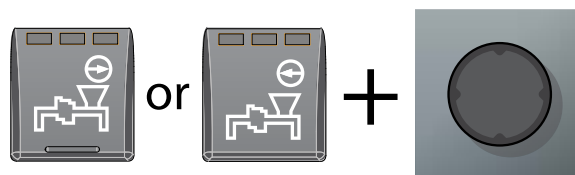

Figure 15
3. Press and hold either the concrete pump forward or reverse button on the pendant remote while simultaneously pressing the ram change button next to the waterbox; both buttons must be pressed within a half second of each other in order to move the differential cylinders (Figure 15). To stop the differential cylinders, release either the concrete pump forward or reverse button or ram change button. To activate the differential cylinder again, release any pressed button then simultaneously press the concrete pump forward or reverse button and ram change button again.